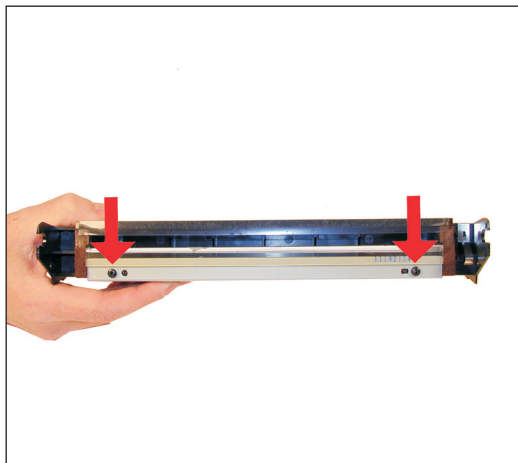

Figure 9
3) Remove the two screws and wiper blade from the waste chamber. See Figure 9